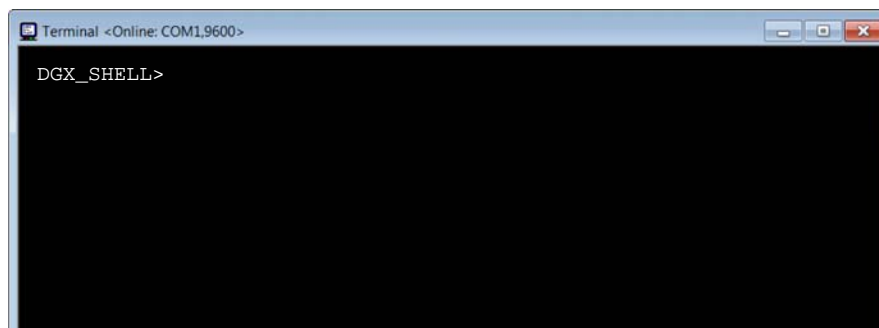

FIG. 139 NetLinx Studio - Terminal Window Communication Settings dialog
5. Click **OK**. The Terminal window opens (FIG. 139):